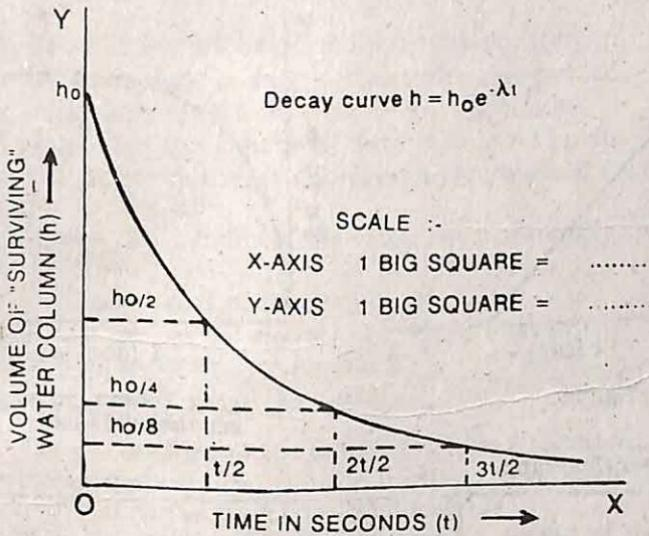

Fig. 7.2.
7. Observe the slope at various points in Fig. 7.2. It will be found that the slope is different at different places. In fact it will be seen that  $\frac{dh}{dt}/h$  is constant.